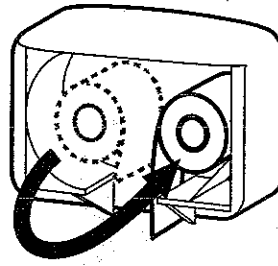

Figure 7
1. Install new roll on left hub so that paper unrolls in clockwise direction (figure 7)